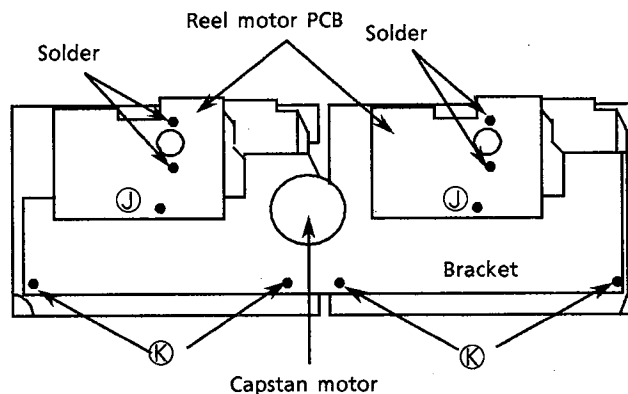

Fig 13
3. Remove the 4 screws Ⓢ fixing the bracket (Fig 13).
3. Remove the screws ⊗ and the bracket (Fig 13).